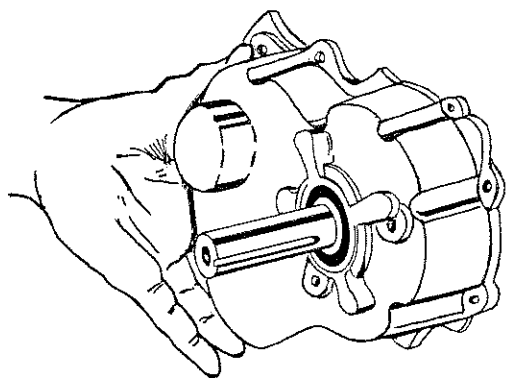
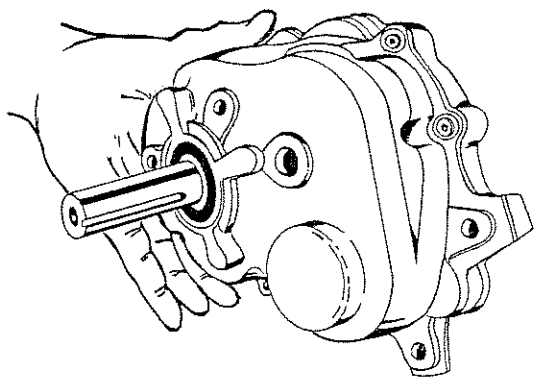

Figure 5.
Figure 6.
4) Slip the gearbox on over the pinion. Be careful not to damage the seal. Rotate the gearbox to the desired position; 3 o'clock or 9 o'clock according to the illustration. (Figure 5 and Figure 6).